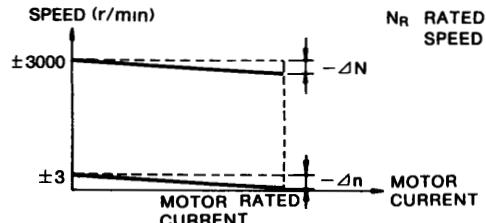

Fig 10.2 Speed Variation
(2) Speed Variation (Fig. 10.2)